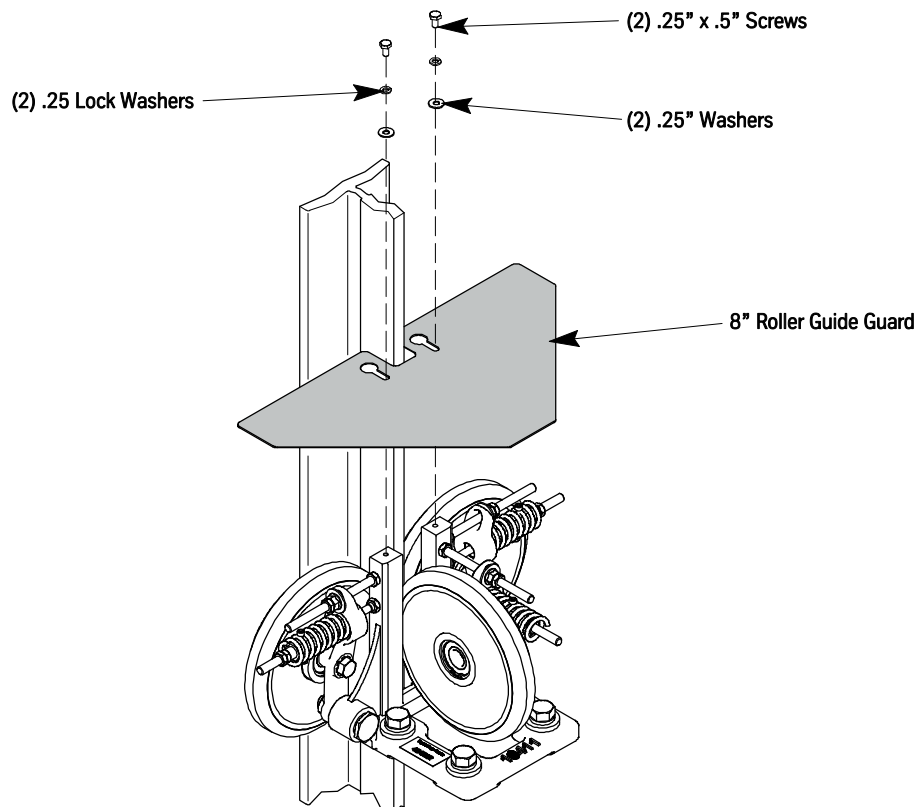

Figure 9 - Roller Guide Guard Installation
5. Install the roller guide guard. See Figure 9.